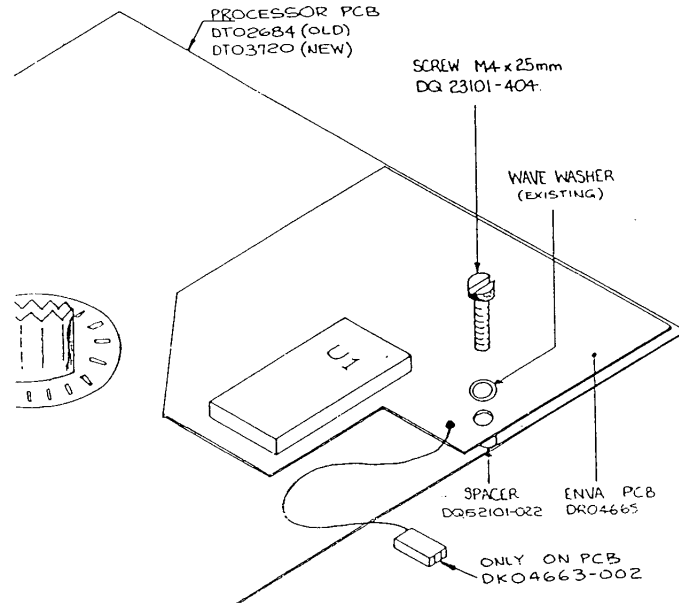

Fig. 2 Mounting position of the ENVA PCB
- e) Position the ENVA board as shown in Fig. 2 and plug the ENVA board into the U7 socket.